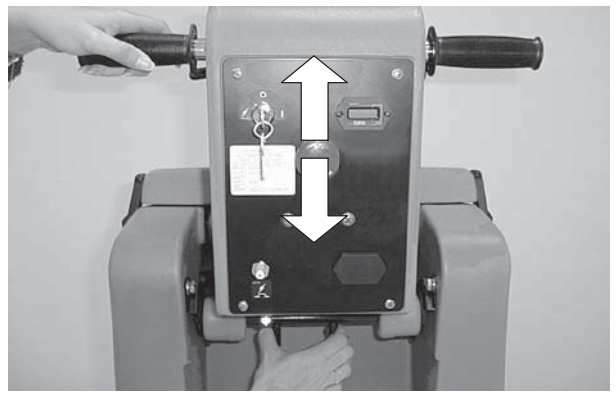

FIG. 9
1. Locate the two spring loaded levers below the console (Figure 9).
2. Squeeze the levers together and lift or lower control grips to a comfortable operating height (Figure 9).